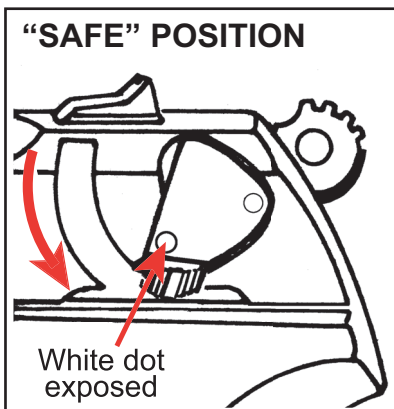

FIGURE 1
The pistol can and should be loaded and unloaded with the safety engaged in its “safe” position (lever fully down, white dot and the word “Safe” exposed). **The safety should be in its “safe” position at all times except when the user is deliberately positioned to fire at a selected target.** See Figures 1 and 2, below, which illustrate the two positions of the safety.
2. **Move either the right- or left-hand safety lever fully downward to its "safe" position so that the word "Safe" and the white dot are fully exposed.** (See Figures 1 and 2 on page 6).
4. Place fifteen (15) or fewer 9mm x 19 Parabellum cartridges into the magazine from the top. **[NOTE:** New magazines sold commercially after 9/13/94 have a maximum capacity of ten (10) cartridges.]
6. Hold the pistol firmly in the shooting hand but **do not touch the trigger.** **Keep the pistol pointed in a safe direction and the safety "on".** With the thumb and forefinger of the other hand grasp the rear of the slide and pull the slide to the rear as far as it will go (See Figure 3, p.10 and "Slide Retraction Warning" p. 13). When released, the slide will fly forward to strip the top cartridge from the magazine and chamber it. The safety mechanism drops the hammer automatically as the slide moves forward while simultaneously blocking the firing pin. The trigger is inoperable when the safety is fully engaged in its "safe" position (lever fully down, white dot and the word "Safe" exposed; see Figure 1 on page 6). **WARNING:** The pistol is ready for instant use in the single-action mode once the slide moves forward if the safety is in the "fire" position. **Be careful!**
7. **If the pistol is not to be fired immediately, the safety should remain in its "safe" position** (see Figure 1, p. 6).
1. The muzzle of the pistol must be pointing in a safe direction at all times, and fingers should be outside of the trigger guard. Put the safety in its “safe” position (see Figure 1 on page 6) by rotating the safety fully downward until the word “Safe” is fully exposed and the white dot shows. The safety can be engaged whether the pistol is cocked or not.